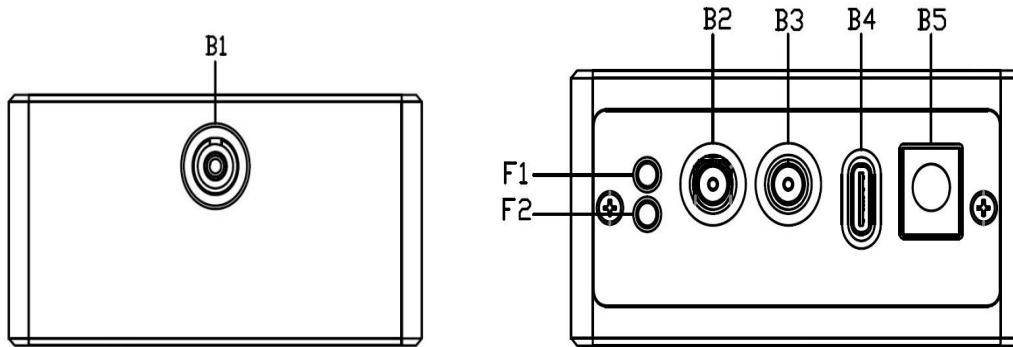

Figure 2 Equipment Interface Diagram
- 1) Connect the device as shown in Figure 2;